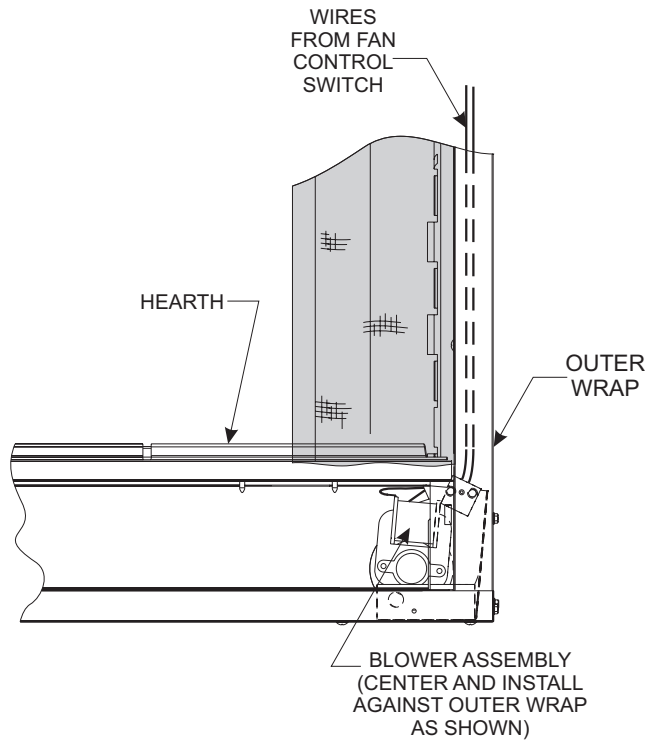

Figure 15
NOTICE: On peninsula models, the blower must be installed at the end which has the brick panel installed. Position blower assembly so that you align the notch on back of blower assembly with the center screw on side/end panel, then push the blower assembly against firebox outer panel. The blower wheel must be centered with the side/end wall of the firebox. The magnets on the back and bottom of blower assembly will sufficiently hold blower assembly in place. **See Figure 15.**
6. To complete the installation, plug the power cord into the junction box receptacle previously installed in the bottom of the fireplace. **See Figure 15.**